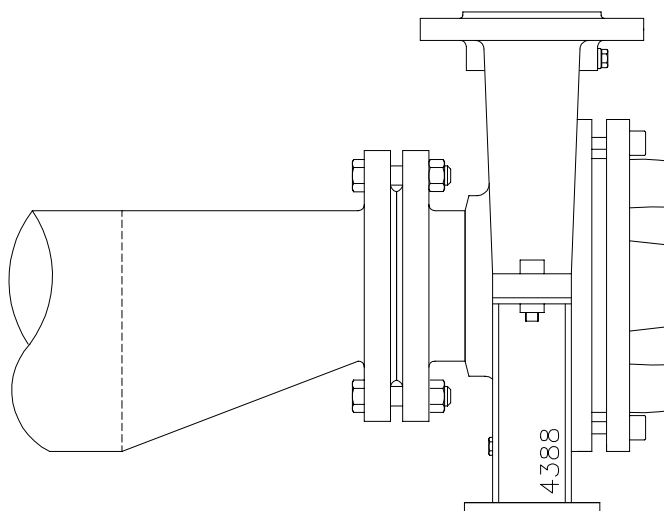

figure 5: *Eccentric reducer to the suction flange.*
- The suction pipe bore must be adequately dimensioned. This pipe must be as short as possible and lead to the pump in such a way that no air pockets can be created. If this is not possible, a venting facility must be fitted at the highest point. If the suction pipe has a larger bore than the suction connection on the pump then an eccentric reducer must be used, so that no turbulence can be created, see figure 5.